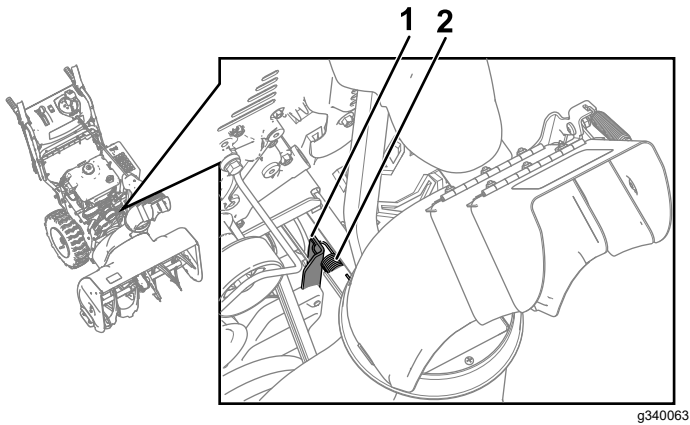

Figure 2
3. Unhook the spring from the existing traction plate (Figure 2).